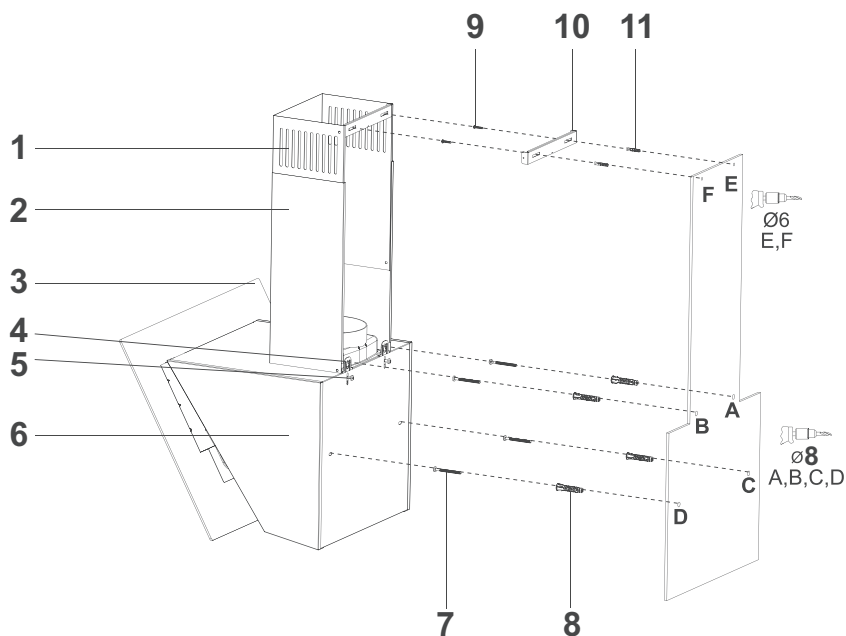

Fig. 12
- Loosening the product hanging plate fixing screw pull the hanging plates upwards, and fix the hanging plated by re-tightening the fixing screw (Fig. 12).
- Assemble the cooker hood with the help of the assembly scheme (Fig. 12).
- Affix the assembly pattern on the wall, at the specified height (See the minimum and maximum distances intended for the worktop, in the assembly pattern). Perforate points A, B, C and D (Fig. 12).
- Insert Ø8mm wall plugs into the holes drilled as A, B, C, and D and screw down the screws at the points A + B, in such a way as to remain 5mm space between the screw head and the wall (Fig. 12).
- The cooker hood is set in the midst, and then the flue connecting plate is directly affixed to the wall, under the cover or points E and F are marked after performing a measurement (Fig. 12)
- Drill points E and F with Ø6 mm drill bit, and insert Ø6 mm and plastic dowels. Insert the flue connection plate with 3.9x22 screws (Fig. 12).